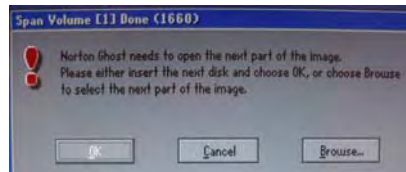

Figure 1-21. Span Volume
5. When the "Span Volume" popup window is displayed (Figure 1-21), remove CD #1 from the CD/DVD drive and insert PARS IMS 4.0.1 P&DC, PARS Phase II Drive Duplicator Installation Kit (CD): Version XP, (Build: N/A), P/N 66.6015.091-02.ODT Volume 2 of 2 and close the drawer
- PARS IMS 4.0.1 P&DC, PARS Drive Duplicator Install Image for Field Deployment (CD): Version XP, (Build: N/A), P/N 600-2730-000ODT Volume 2 of 2
- PARS IMS 4.0.1 P&DC, PARS Phase II Drive Duplicator Installation Kit (CD): Version XP, (Build: N/A), P/N 66.6015.091-02.ODT Volume 2 of 2